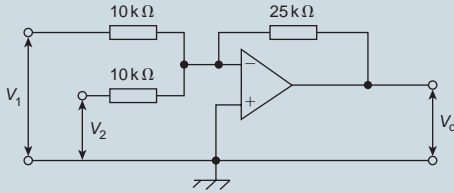

Figure 21.19
2. In the circuit of Fig. 21.19, determine the value of the output voltage, V_o , when (a) $V_1 = +1\text{ V}$ and $V_2 = +3\text{ V}$ (b) $V_1 = +1\text{ V}$ and $V_2 = -3\text{ V}$